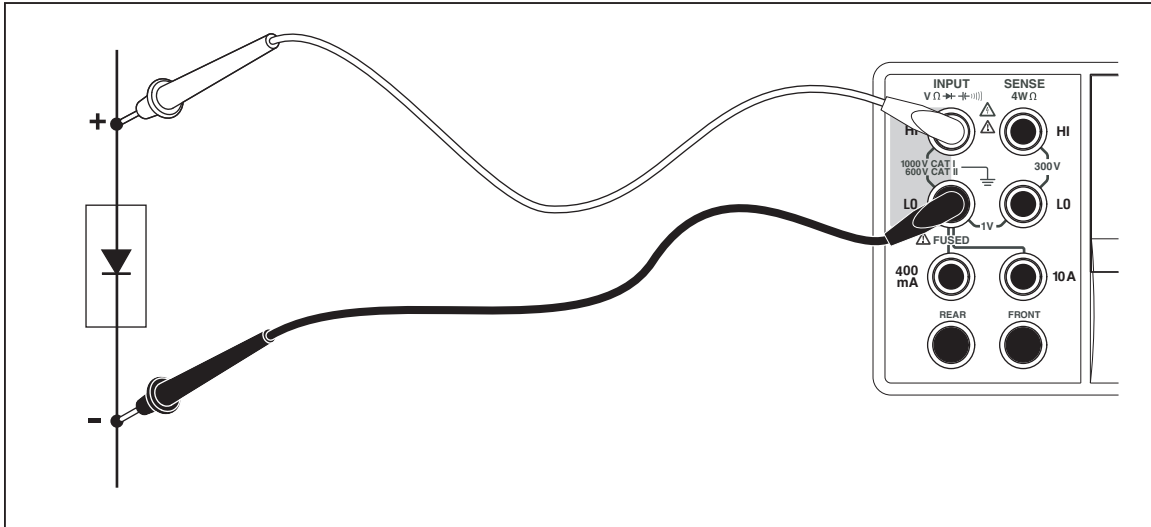

Figure 4-8. Diode Testing Connections
3. Connect the test leads as shown in Figure 4-8.